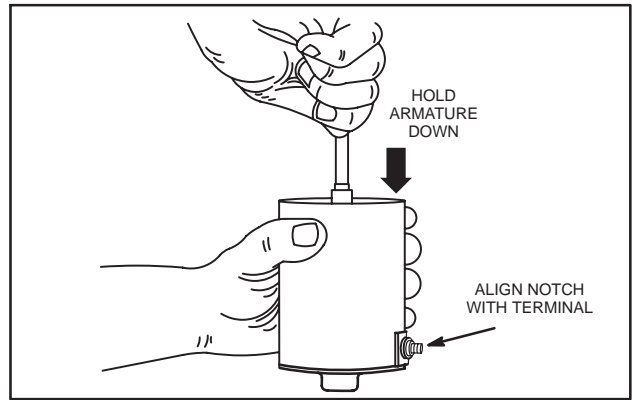

Fig. 16 – Install Starter Housing
4. Slide housing over armature, aligning notch in housing with terminal on brush retainer, Fig. 16.